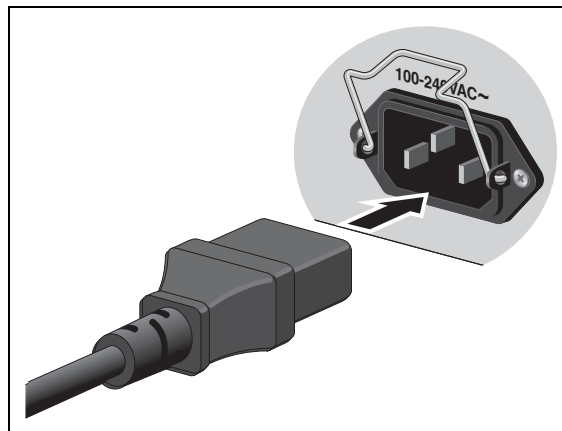

Figure 58. Connecting the AC Power Cord
2. Plug the power cord into the AC power connector on the rear panel of the unit, as shown in Figure 58. Lower the power cord retaining clip to secure the power cord to the unit.